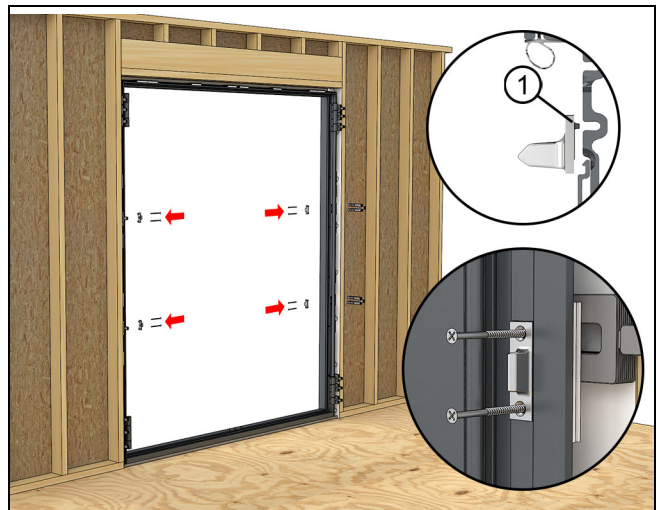

Figure 56
19. Install the panel alignment bolts between the hinges on the frame. Note the tab on the back side of the bolt. This fits into the kerf on the frame. Shim between the frame at the bolt locations and fasten with #8 x 3" screws. See Figure 56.